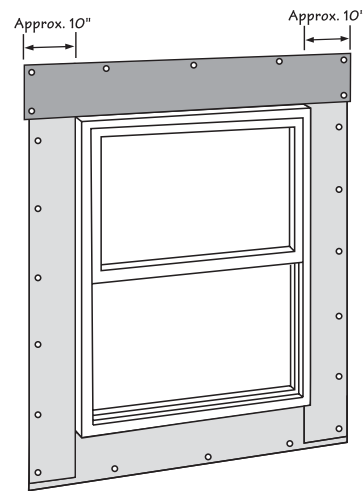

Figure 32.
- Apply a continuous bead of sealant adjacent to the head of the installed window. For windows with nailing flanges, the sealant should be applied to the nailing flange in a manner that covers the nails and nail slots. Install the head flashing by pressing the bottom edge of the flashing into the sealant bead previously applied across the mounting flange. Extend the ends of the head flashing approximately 1" beyond the jamb flashing at each end. Fasten the head flashing into place along the top edge (Fig. 32).